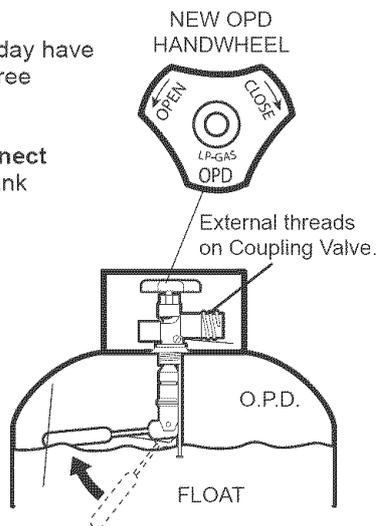

Fig. 3
O.P.D. or Overfill Protection Device prevents accidental gas leaks caused by cylinder 'over-pressurization', the leading cause of cylinder gas leaks. The float in the tank will automatically stop filling at 80% capacity, leaving a 20% area for the expansion of liquid. Without this safety feature, the relief valve may open and discharge propane, creating a potential safety hazard. An O.P.D. cylinder is easily distinguished by its triangular hand wheel valve. (Figure 3)
Prior to attaching the propane cylinder to the hose and regulator, be sure the cylinder valve and the appliance valves are OFF. The cylinder valve is turned off by rotating the handwheel (see Figure 3) clockwise (left to right) until it stops and all appliance valves should be in the off position. When attaching the regulator to the cylinder, make sure that the small probe in the nipple is centered in the mating Q.C.C. 1 cylinder valve (see Figure 6). Turn the right hand threaded Q.C.C.1 black nut onto the valve in a clockwise motion until there is a positive stop. **DO NOT USE A WRENCH, HAND TIGHTEN ONLY.**